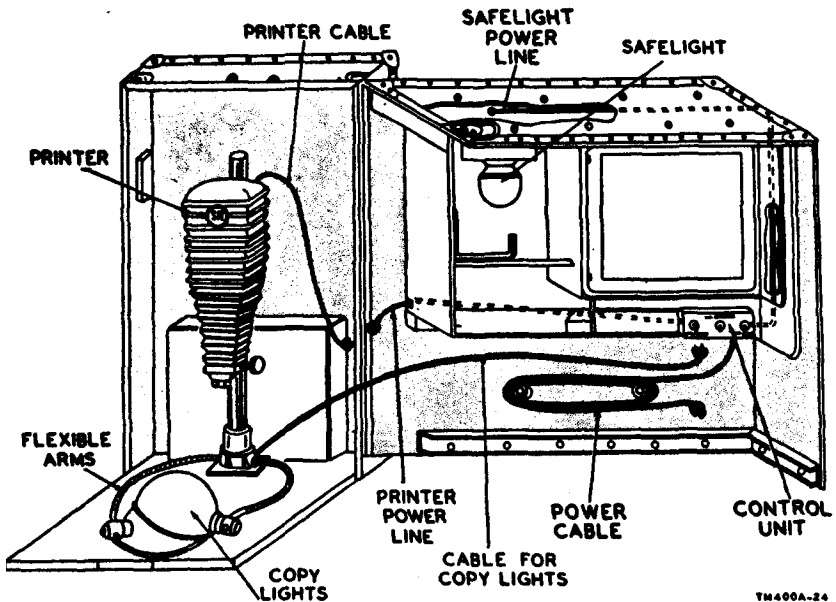

Figure 24. Part of Photographic Equipment Carrying Case FM-22 (1), showing cables for connecting components.
37. Preliminary Equipment Tests (fig. 24)
a. Unwind the power cable assembly (fig. 24) from the retaining pegs in the case.